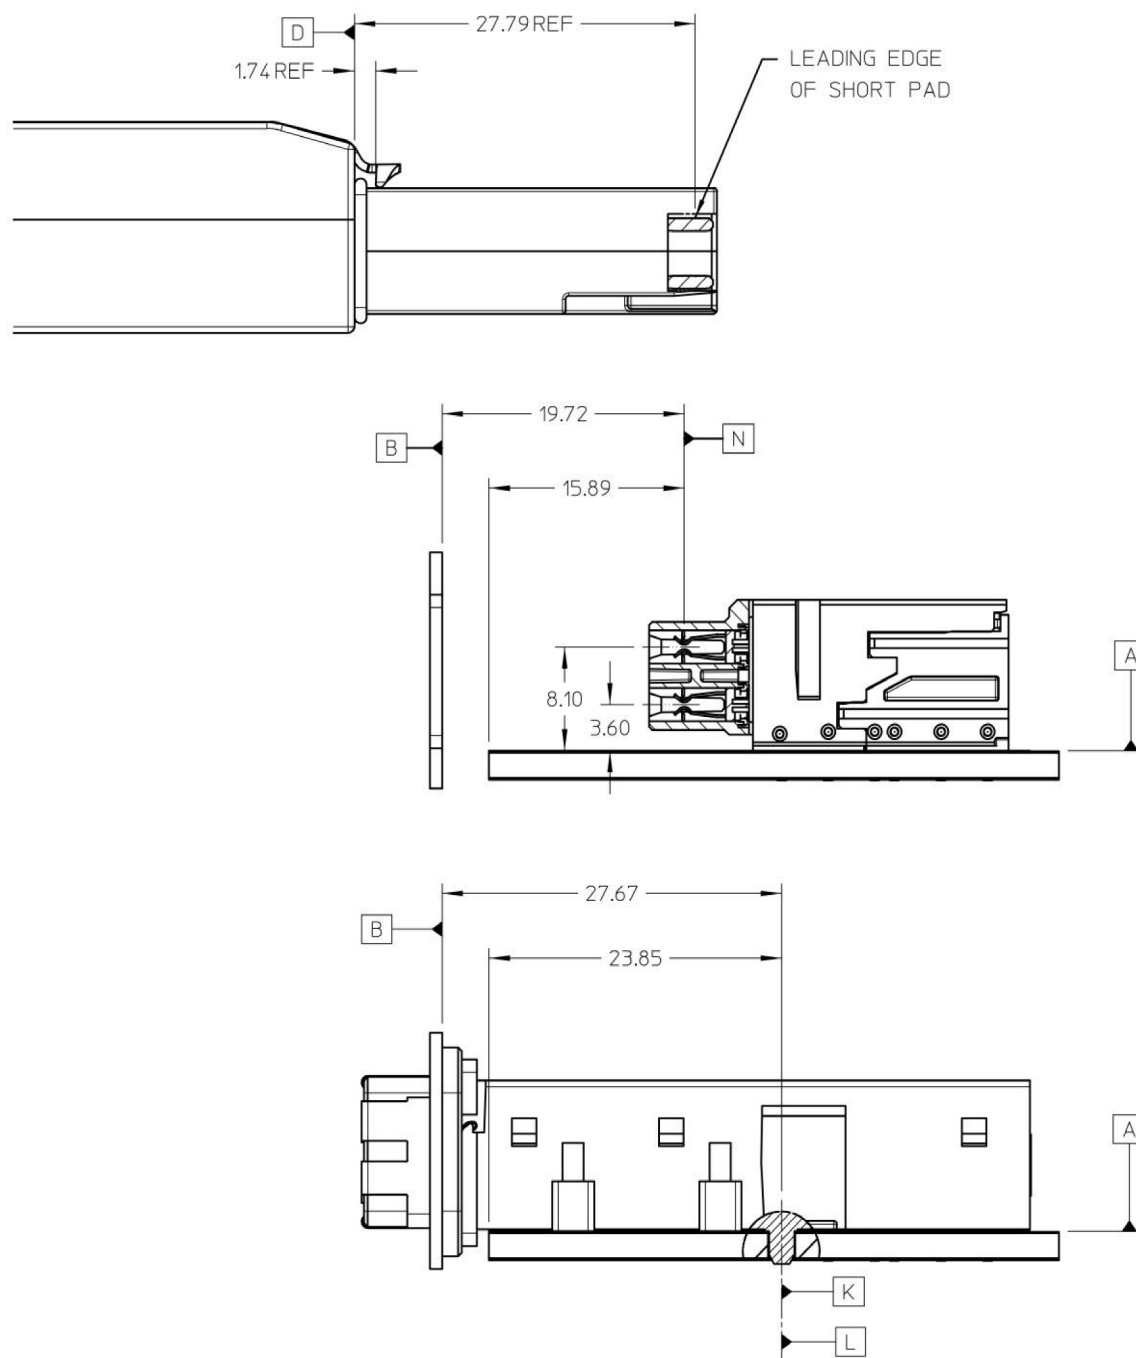

Figure 14: CDFP Style 1 Datum Alignment, Depth
A listing of the datum's for the various components is contained in Table 6. The alignments of some of the datum's are noted. The relationship of the Module, Cage, and Connector relative to the Host Board and Bezel is illustrated in Figures 14 and 15 by the location of the key datum's of each of the components. In order to reduce the complexity of the drawings, all dimensions are considered centered unless otherwise specified.
*Datum's D, K, L, N and T are aligned when assembled (see figures 14 and 15)